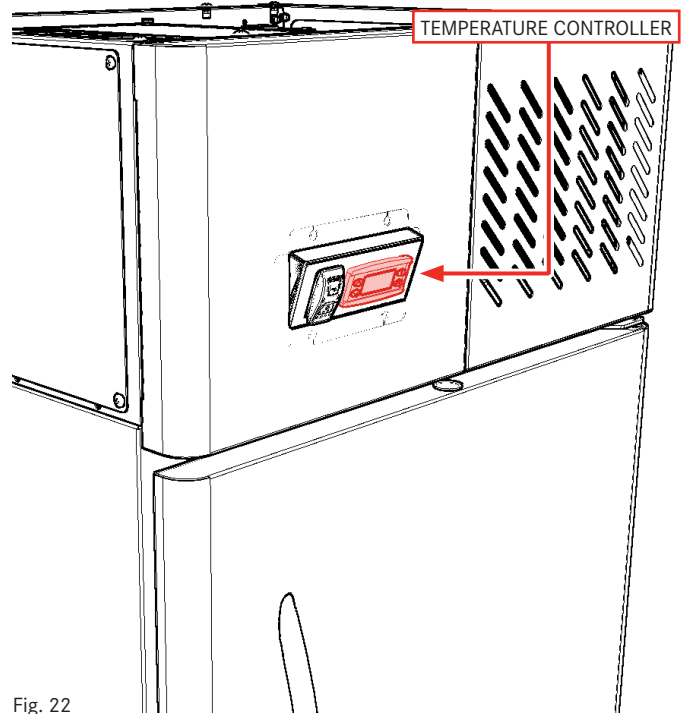

Fig. 22
1. Locate the temperature controller on the top-left panel at the front of the unit (Fig. 22).